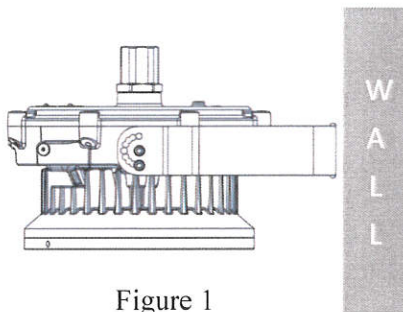

Figure 1
- Position the bracket holders and secured to mounting surface by means of the provided M6 screws, Torque value M6=24.5 kgf-cm. (Figures 1 and 2)